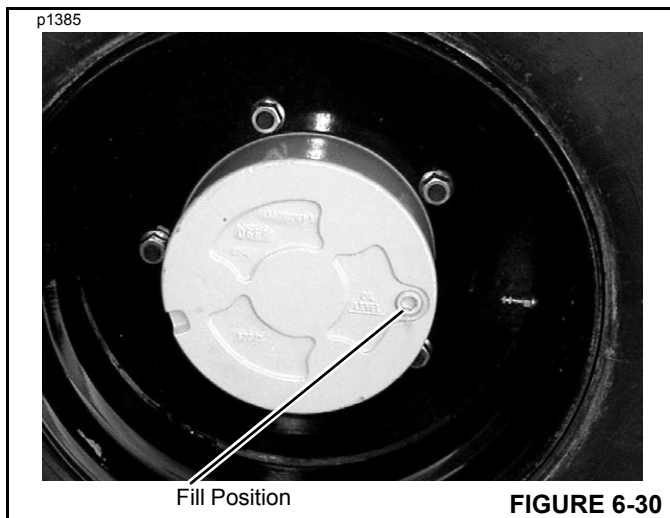

FIGURE 6-30
5. Turn the wheel hub until the drain hole is horizontal (Figure 6-30).